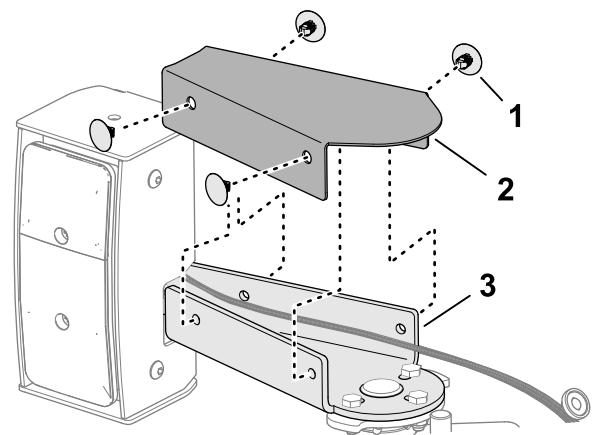

Figure 50
6. Install the mount cover to the light-housing mount with 4 push-in fasteners (Figure 50).